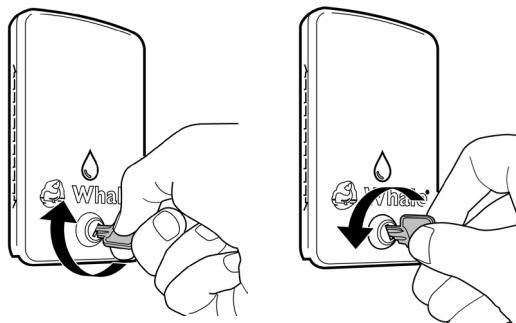

Figure 3. Locking and Unlocking Lid
- (*Figure 3*) Onboard Tank Fill Socket and Onboard Tank Fill + 12v Socket lids incorporate a lock for safety and to restrict access to your fresh water supply. Turn clockwise to lock and anticlockwise to unlock the lid.